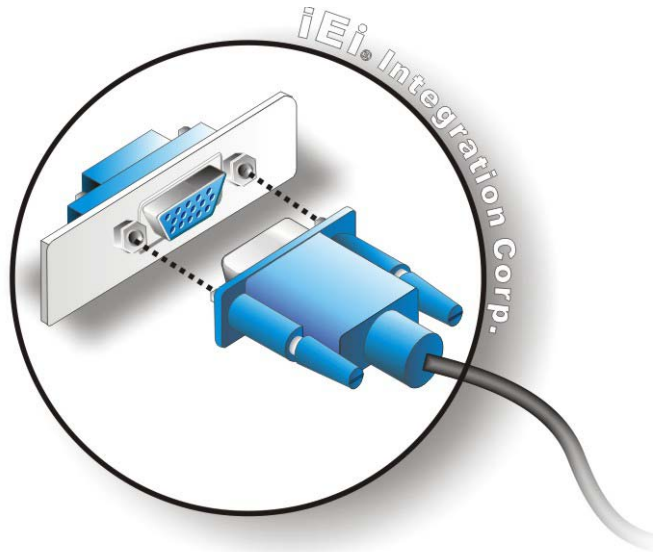

Figure 3-20: VGA Connector
Step 3: Insert the VGA connector Once the connectors are properly aligned with, insert the male connector from the VGA screen into the female connector on the TANK-870-Q170 Series. See **Figure 3-20**.